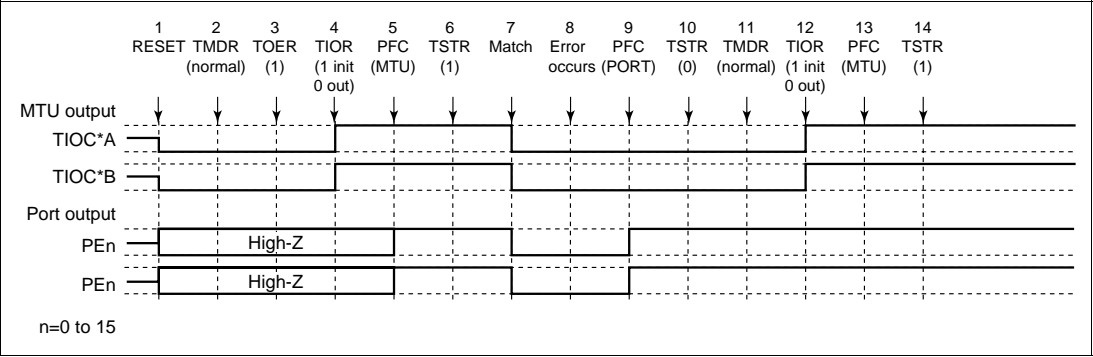

Figure 12.96 Error Occurrence in Normal Mode, Recovery in Normal Mode
(1) Operation when Error Occurs during Normal Mode Operation, and Operation is Restarted in Normal Mode: Figure 12.96 shows an explanatory diagram of the case where an error occurs in normal mode and operation is restarted in normal mode after re-setting.
- 1 to 10 are the same as in figure 12.96.
1 to 10 are the same as in figure 12.96.